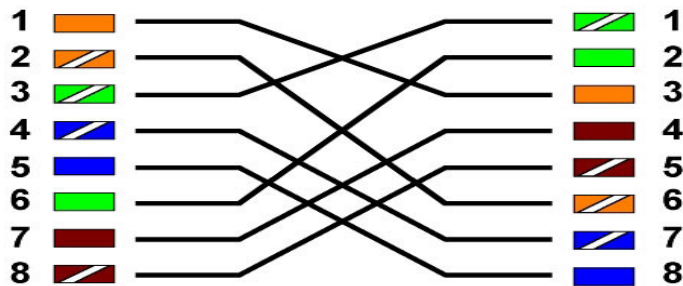

Figure 4 Network cables diagrams (Crossover and Straight)
- On most modern PC You can use **Straight network** cable for both connection types: to hub or direct connection to PC (see **Figure.4**)
- On some old PCs if you connect SDR to PC directly, you should use Crossover cable (see **Figure.4**)
- If you connect SDR to network router, hub or switch you should use Straight cable (see **Figure.4**).